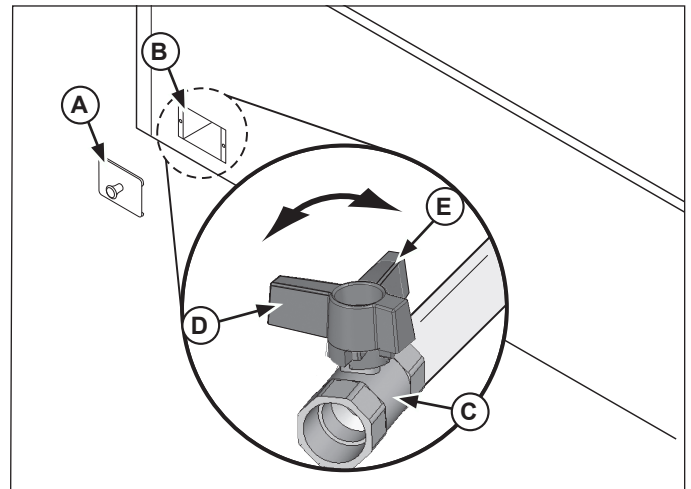

Figure 1. Drain Valve and Drain Valve Access Door
1. Open the valve access door (A) and check that the drain valve (C) is in the closed position (D). See Figure 1.
10. Open access the drain valve access door (A). See Figure 1.
11. Place a suitable container directly under the drain valve (C). Turn the drain valve (C) to the open position (E) monitoring the flow of liquid going into the container. Use caution to avoid spills that may create a slippery condition. Turn drain valve (C) to the closed position (D) off before the container is full. Dispose of the drained water. This procedure may need to be repeated.
12. Turn drain valve (C) to the closed position (D) and close the drain valve access door (B).
- (A) ON/OFF switch.** Set switch to the up position for “ON”. Set switch to the down position for “OFF”. The switch will illuminate when in the “ON” position.
7. Open access the drain valve access door (A). See Figure 1.
8. Place a suitable container directly under the drain valve (C). Turn the drain valve (C) to the open position (E) monitoring the flow of liquid going into the container. Use caution to avoid spills that may create a slippery condition. Turn drain valve (C) to the closed position (D) off before the container is full. Dispose of the drained water. This procedure may need to be repeated.
9. Turn drain valve (C) to the closed position (D) and close the drain valve access door (B).